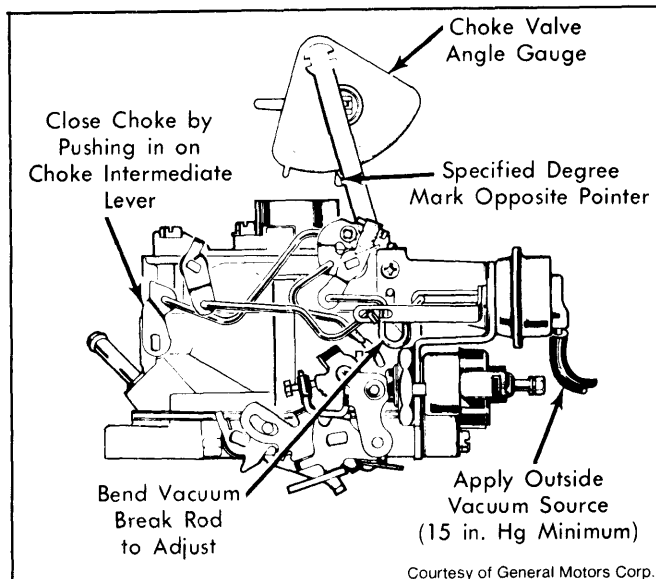

Fig. 10: Adjusting 4-Cylinder Engine Primary Vacuum Break
- 2) Set up angle gauge and set angle to specification. Using an outside vacuum source of at least 18 in. Hg, retract vacuum break plunger. Plug air bleed hole with tape or pump plunger cup, if equipped. See Fig. 10 or 11. Air valve rod should not prevent seating of vacuum break diaphragm.